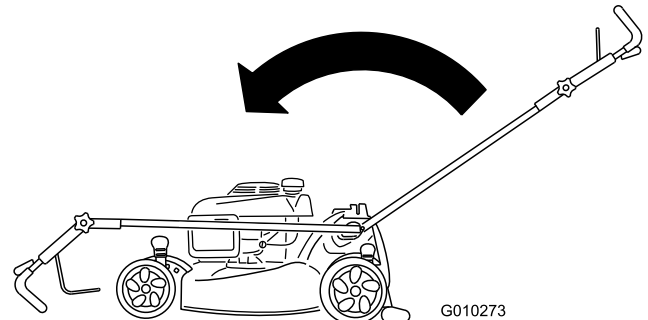

Figure 51
2. Move the handle all the way forward and loosen the upper handle knob (Figure 51).